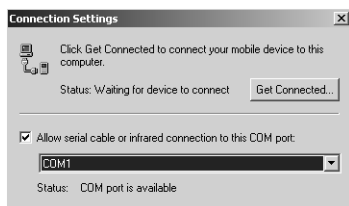

Figure 2-16. Click Get Connected
3. On the Connection Settings dialog box, set the following parameters (Figure 2-16 on page 2-10):